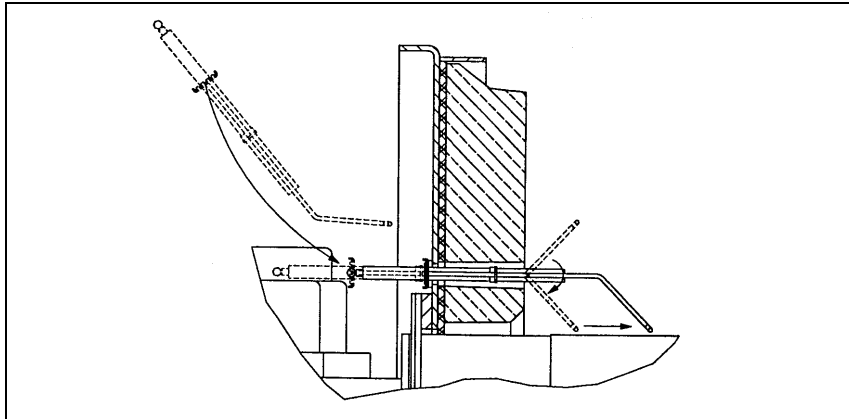
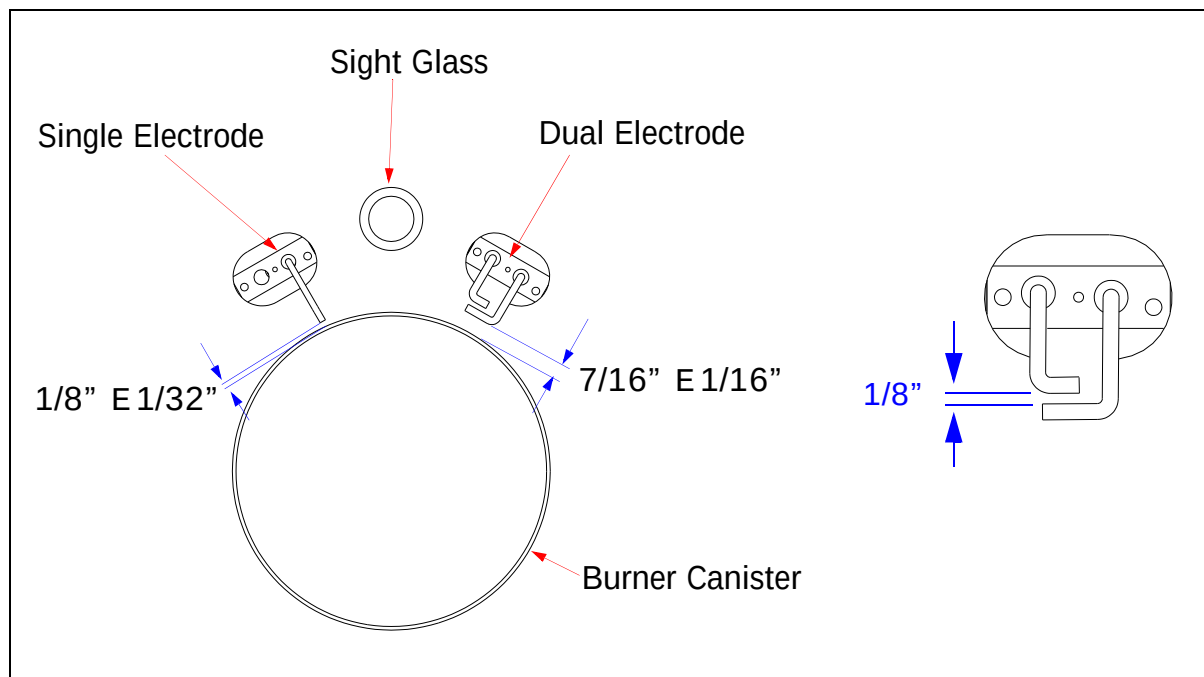

Figure 5-9 Electrode Setup
Figure 5-10
- A. Check ignition and ionization electrodes for deposits and proper gap. Clean or replace as required. Refer to Fig. 5-9 and Fig. 5-10
The ignition and ionization electrodes should be checked on an annual basis or as needed if ignition problems are encountered. Replacement should be accomplished as shown in **Figure 5-9** with the electrode turned toward the burner mantle/canister after it is inserted into the burner head.